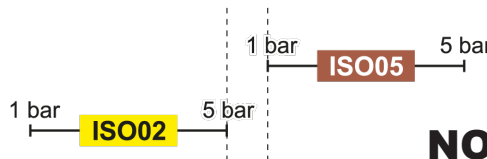

Fig. 117
• **NON compatible nozzles:** the rate at 1 bar of the ISO05 nozzle is HIGHER than the rate at 5 bars of the ISO02 nozzle (Fig. 117).